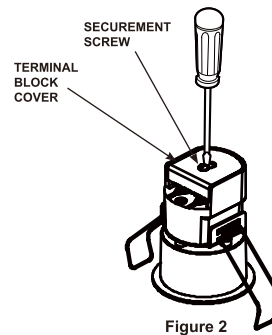

Figure 2
**Step 4.** Remove terminal block cover located atop fixture (Fig. 2). Insert the two secondary leads into adjacent terminals on the right or left side of the terminal block (Fig 3). (The remaining terminals are for daisy-chain wiring if desired.) Secondary wiring is not polarized. Tighten terminal block screws securely to retain wires. (4 In-lb minimum)